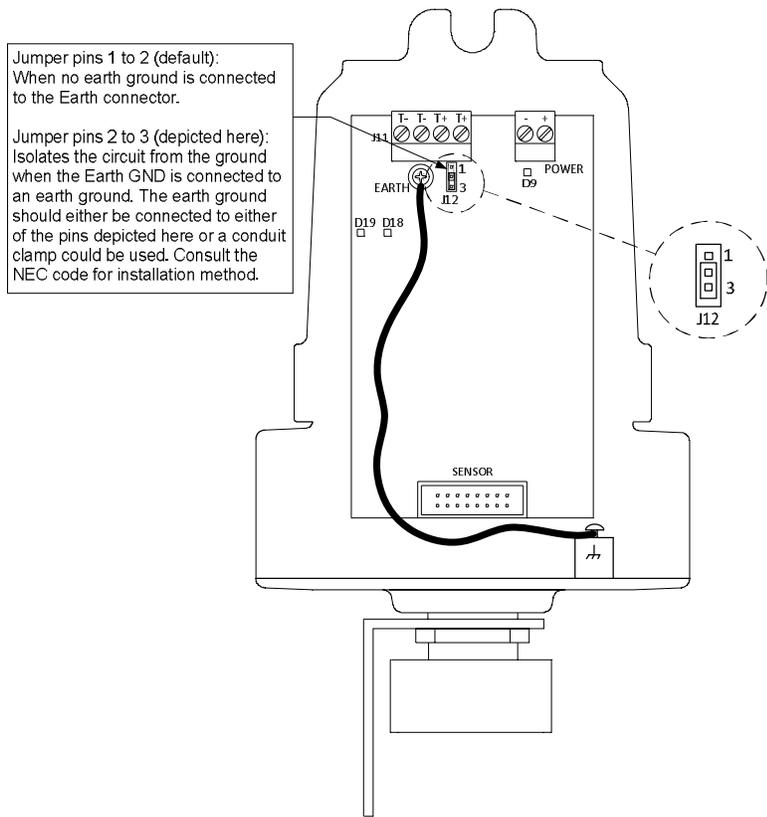

Figure 35: Grounding the electronics board
- Connect the EARTH connector to the ground connector as shown in Figure 35.